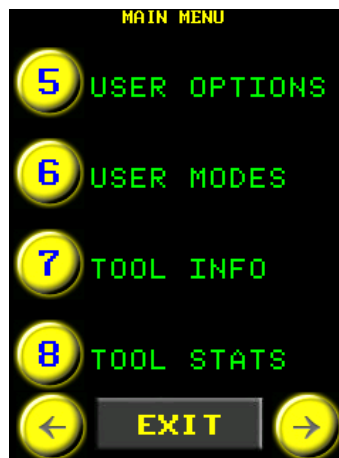

Figure 5.11-1: Main Menu
5. Select "User Modes" from the Main Menu (Figure 5.11-1).